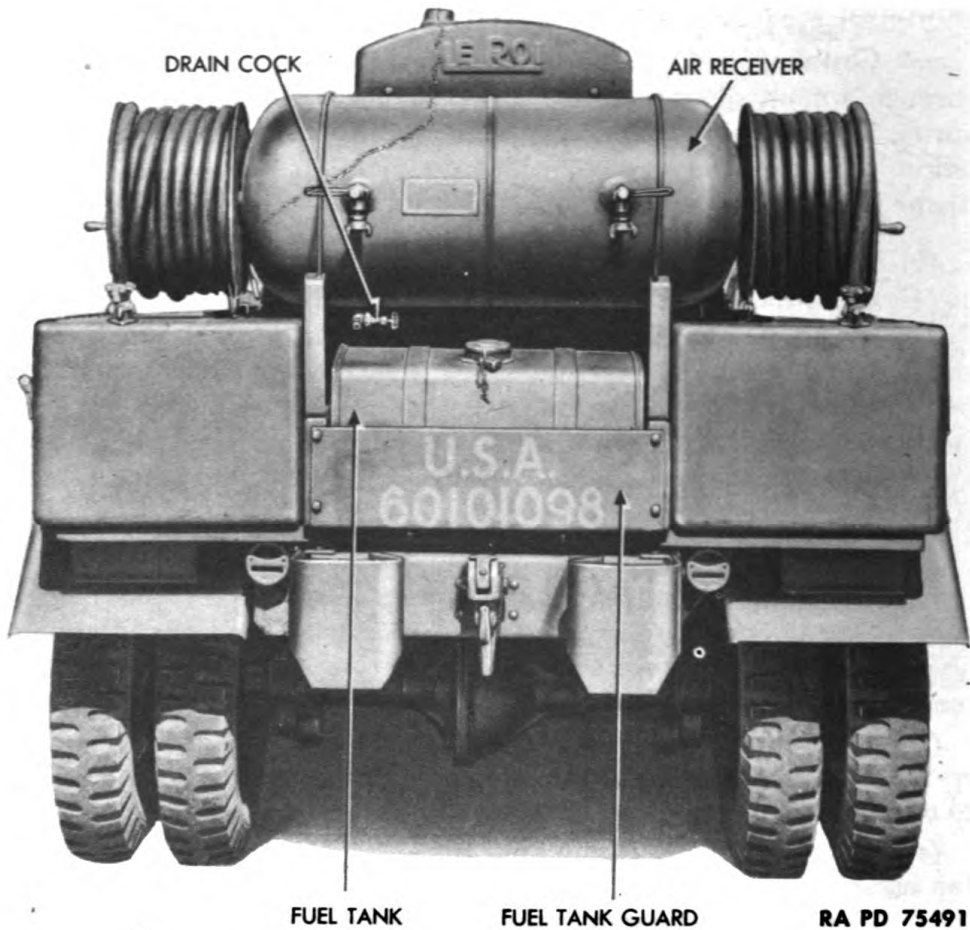

Figure 9 — Rear of Compressor Unit
(b) **Fuel Tank** (fig. 9). Gasoline to operate both the truck and the compressor engines is carried in a 50-gallon fuel tank located beneath the air receiver on the rear of the vehicle. A heavy steel
- (6) Open drain cock (fig. 9) in air receiver and drain condensate. Close drain cock. Repeat this procedure every 4 to 6 hours during operation, depending upon weather conditions.
(3) Open drain cock (fig. 9) in air receiver tank.
(4) Close gasoline shut-off valve if engine is to remain inoperative for any length of time.
- (5) Install spark plugs and connect spark plug cables.
- (6) Fill cooling system with clean soft water. Add antifreeze if necessary.
- (7) Fill fuel tank, open valve in gasoline line, and operate hand priming lever on fuel pump to fill carburetor float chamber.
- (8) Close drain cock (fig. 9) in air receiver.
- (9) Start engine. Allow to run slowly until thoroughly warmed up before engaging compressor.